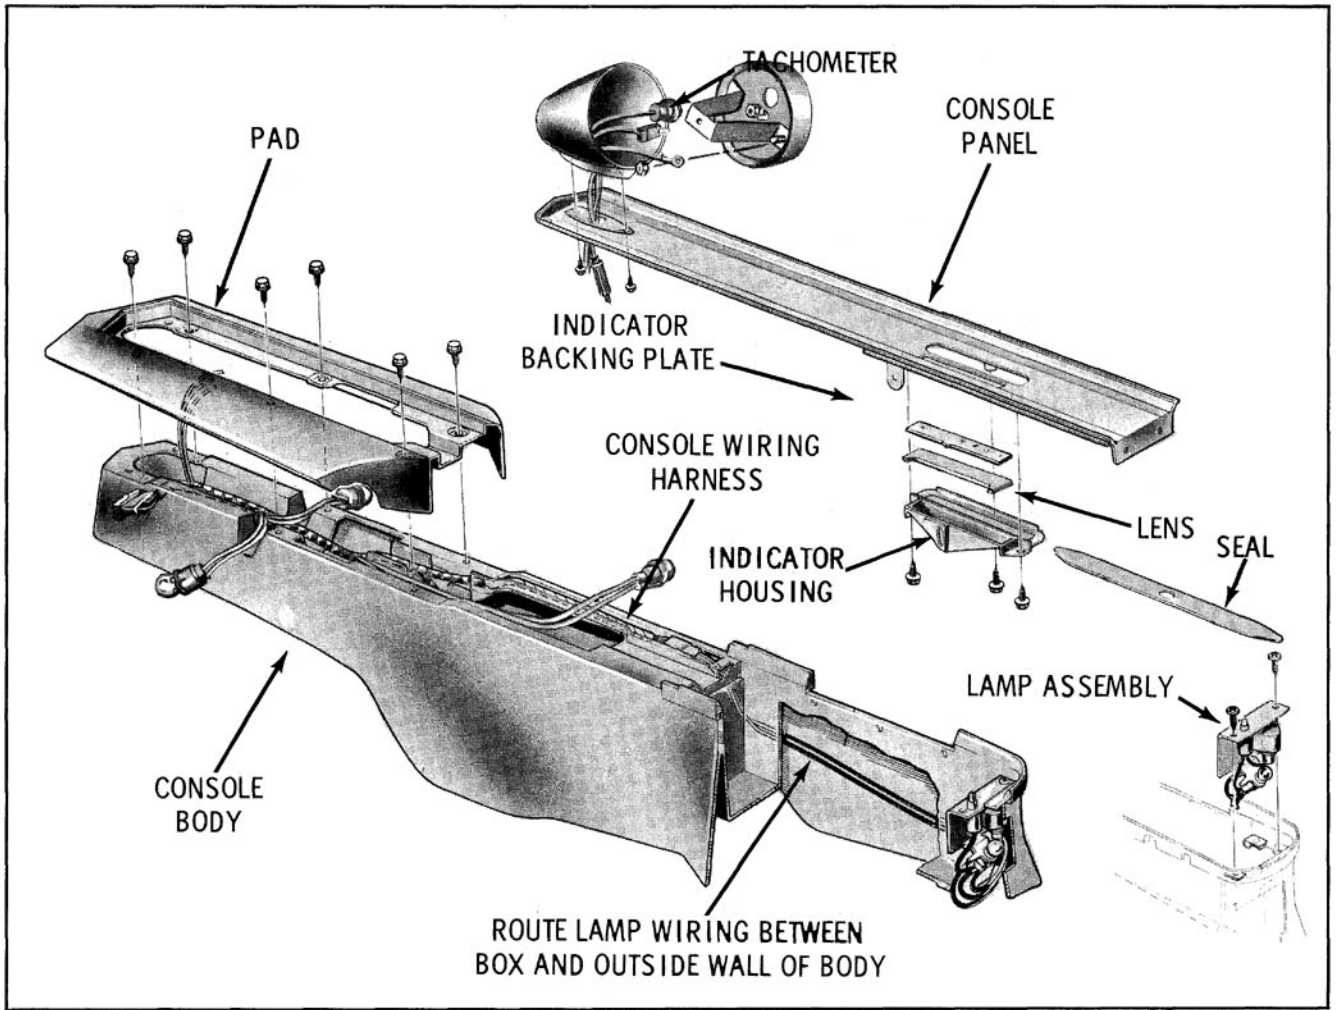

Fig. 12-115 Console Assembly - Jetaway
body by two screws accessible inside of the glove box. To change either bulb it is necessary to remove the two screws retaining the lamp assembly. (Fig. 12-115) The glove box lamp bulb is the snap-in type and the rear courtesy lamp bulb is the depress and turn type.
SHIFT SEAL, INDICATOR, LENS AND INDICATOR HOUSING (Fig. 12-115)
7. Remove the three screws securing the shift indicator housing to the console panel and remove the plate and lens. (Fig. 12-115)
PAD ASSEMBLY (Fig. 12-115)